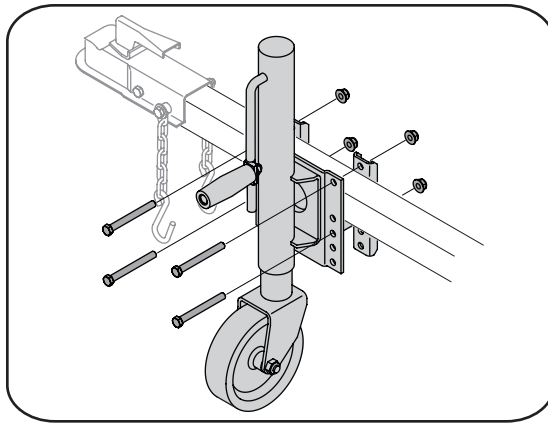

Figure 3-1
2. Place adjustable jack stand halfway between beam support/latch bracket and end of tongue. See Figure 3-1.